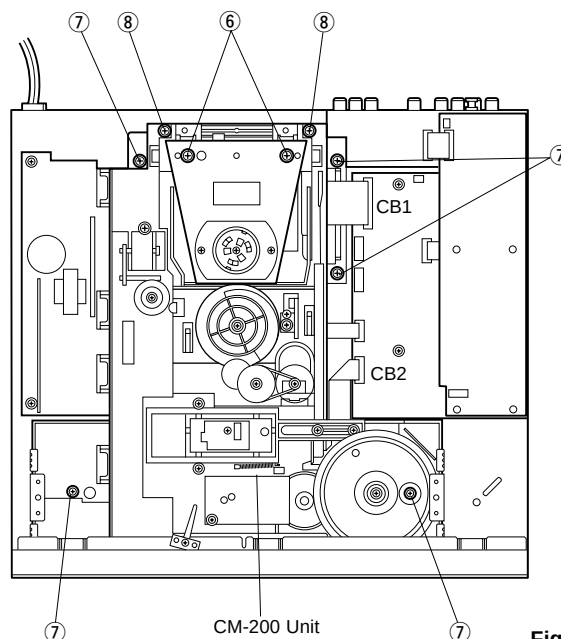

Fig. 4
- a. Remove 2 screws (⑥) as shown in Fig. 4.
- a. Remove 5 screws (⑦) as shown in Fig. 4.
- a. Remove 2 screws (⑧) and then remove the PU Ass'y as shown Fig. 4.